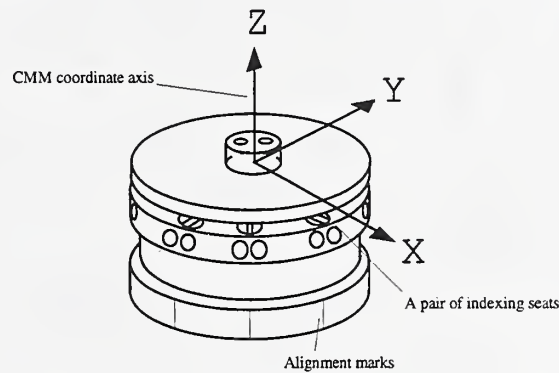

Figure 16. Aligning the ITA with the CMM coordinate axis
- (1) A pair of indexing seats and corresponding alignment marks are parallel to the X and Y axes of the CMM (see figure 16). This alignment may be done by eye, and need only be accurate to a few degrees.